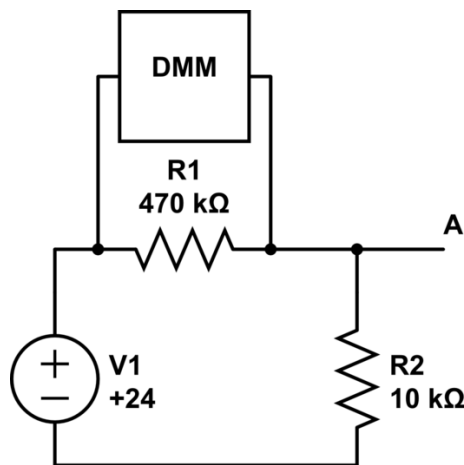

Figure 7: Measuring voltage across 470 kΩ resistor
b) To measure the voltage drop across the 470 kΩ resistor connect the DMM in parallel with the resistor, the circuit diagram is shown in figure 7